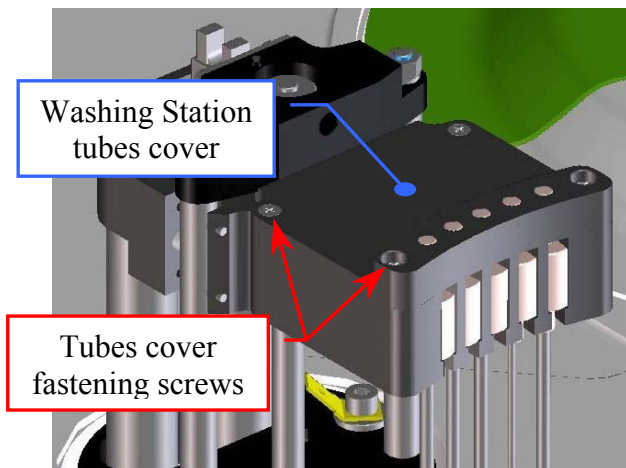

Fig. 119 – Washing Station tubes cover
3. Unscrew the four fastening screws of the Washing Station tubes cover (**Fig. 119**) and remove the cover from the Washing Station.